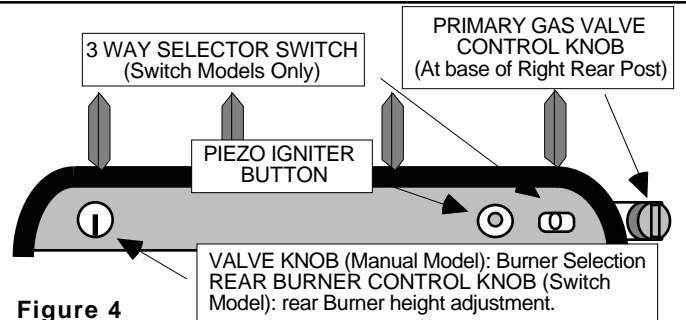

Figure 4
1. Push in **Valve Knob** and turn completely clockwise to "OFF". (Figure 4)
1. Depress and turn the **Primary Gas Valve Control Knob** (located at the base of the right rear grate leg, (locate at Figure 3) clockwise to the "OFF" position. Turn the **Rear Burner Control Valve** clockwise to "OFF" (locate at Figure 4).